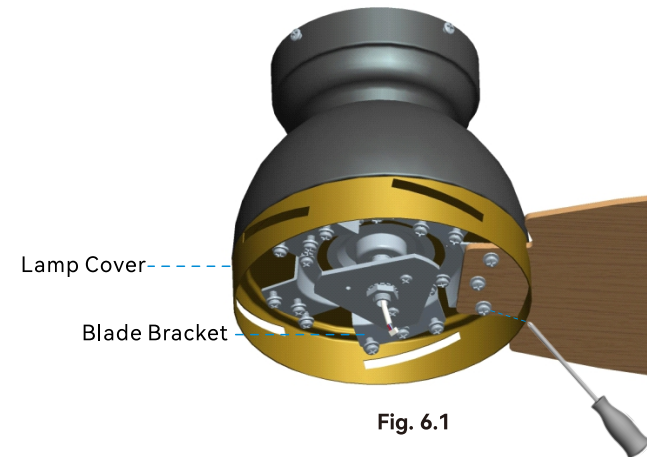

Fig. 6.1
6.1 Locate 15 blade attachment screws and washers in the hardware pack. Slide the blade through the lamp cover and align the blade holes with the screw holes of the blade bracket and fasten the blades with the screws and washers as shown in Fig. 6.1.